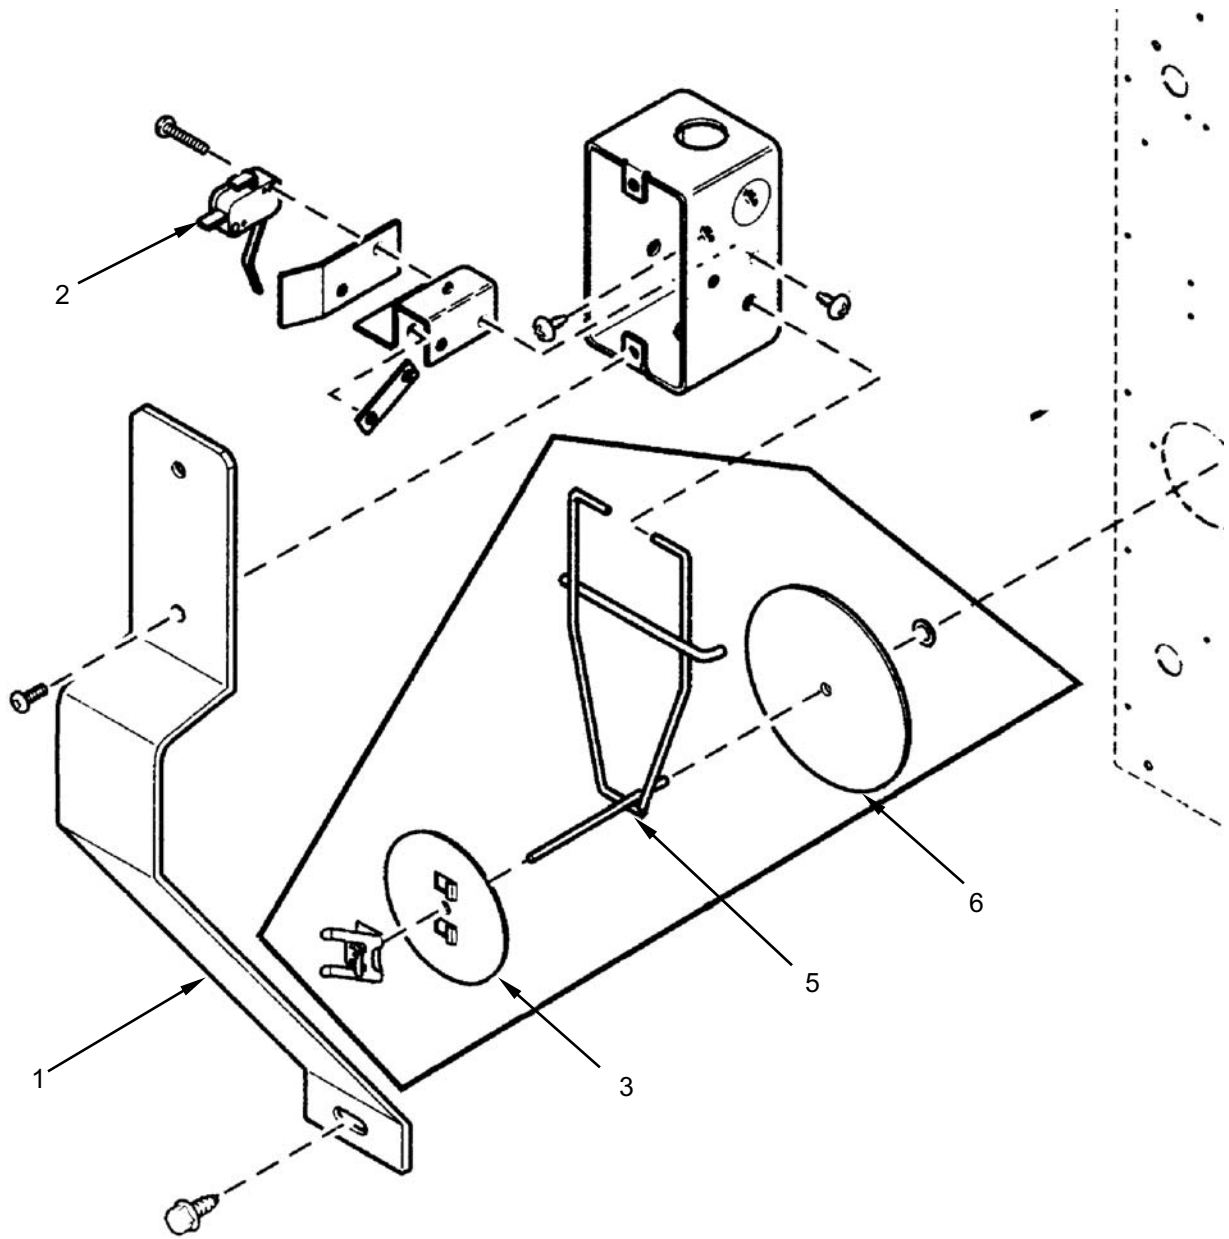

Figure 3. Repair the Dryer Airflow Switch.
2. Remove switch guard retaining screws, and remove switch guard (**Figure 3, Item 1**).
3. Tag and disconnect wiring from switch (**Figure 3, Item 2**).
4. Remove vane lever (**Figure 3, Item 5**) with vane (**Figure 3, Item 6**) and counterweight (**Figure 3, Item 3**) as an assembly from the airflow switch box.
5. Remove screws retaining switch (**Figure 3, Item 2**) to airflow switch box and remove switch.
6. Release clip retaining counterweight (**Figure 3, Item 3**), and remove counterweight.
7. Remove clip retaining vane (**Figure 3, Item 6**) and remove vane.
9. Install switch (**Figure 3, Item 2**), and retain with screws.
10. Install vane (**Figure 3, Item 6**) onto vane lever (**Figure 3, Item 5**) and retain with clip.
11. Install counterweight (**Figure 3, Item 3**) onto vane lever (**Figure 3, Item 5**) and retain with clip.
12. Install assembled vane lever (**Figure 3, Item 5**) with vane (**Figure 3, Item 6**) and counterweight (**Figure 3, Item 3**) as an assembly onto the airflow switch box.
13. Connect wiring to switch (**Figure 3, Item 2**) as tagged.
14. Install switch guard (**Figure 3, Item 1**) and retain with screws.